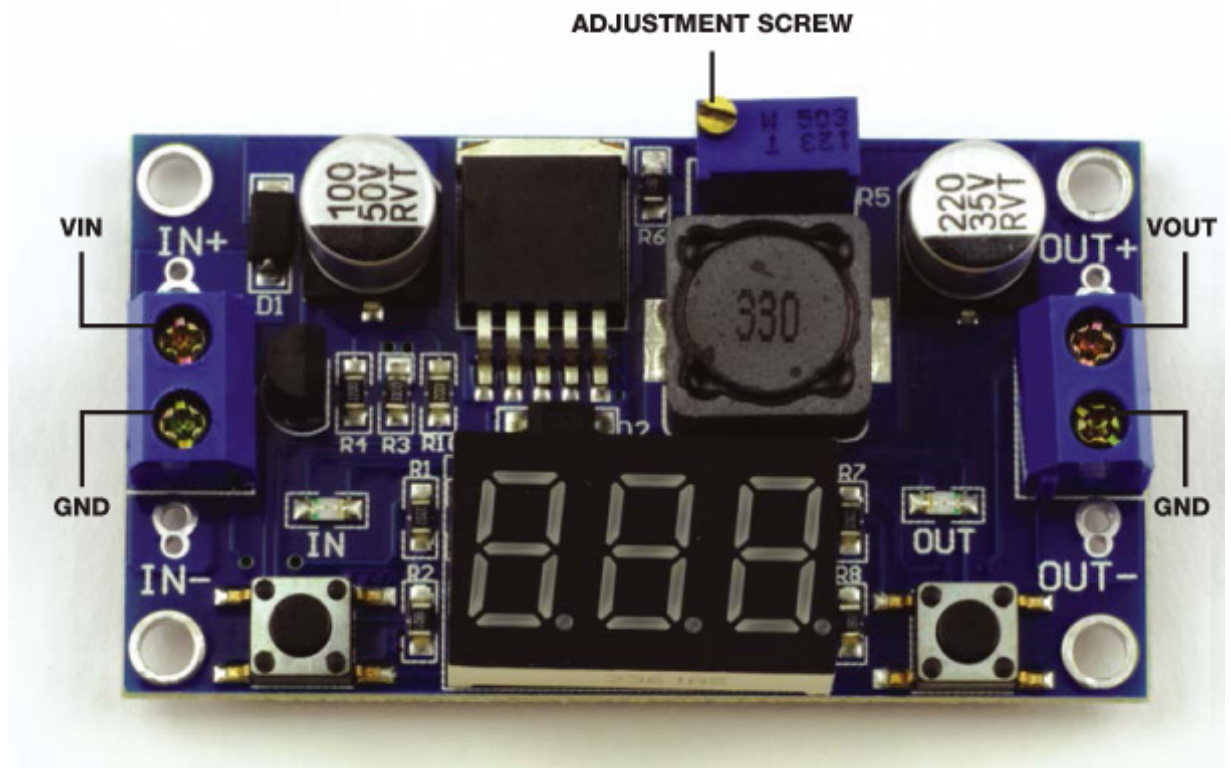
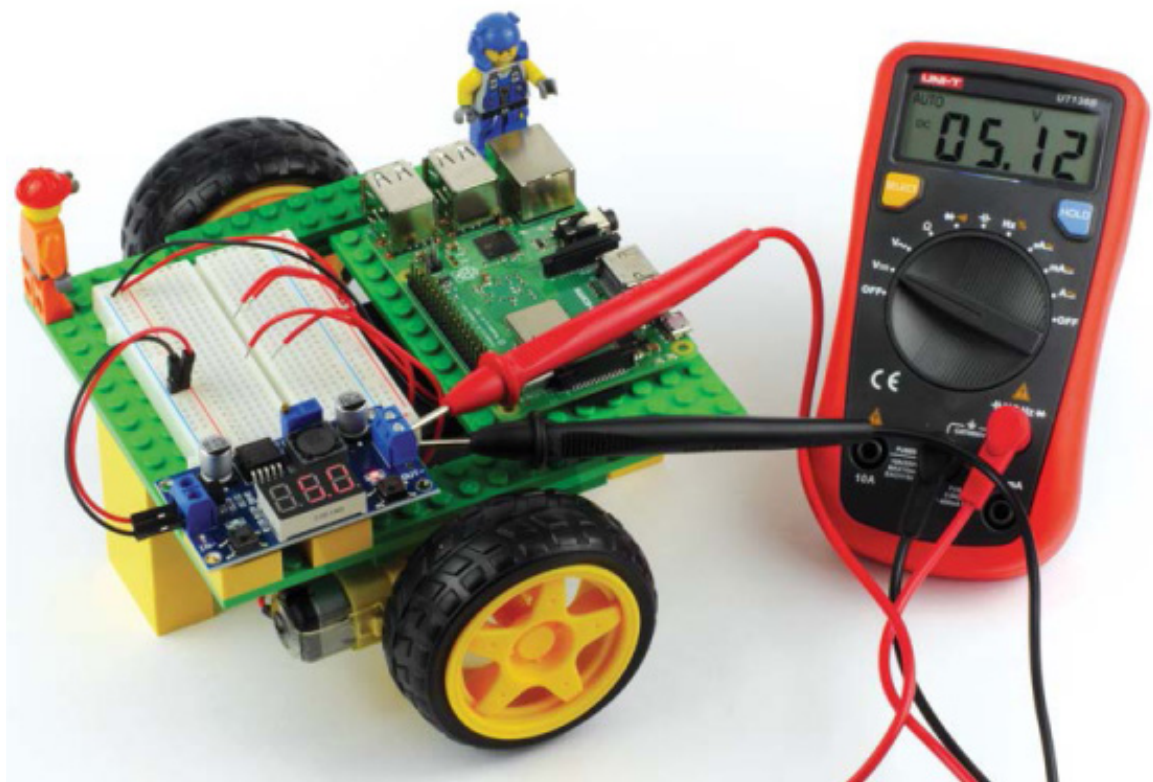

FIGURE 3-19 A close-up of the buck converter
FIGURE 3-20 The multimeter reading 5 V from the output of the buck converter
Start by setting up your buck converter using the following instructions—you won't connect it to the Raspberry Pi just yet. Flip to the circuit diagram in Figure 3-21 to see a final diagram of the buck converter setup. Check out Figure 3-19 for a close-up image of the buck converter too.
- Next, turn on your multimeter and set it to read voltage—on most multimeters you do this by turning the dial in the middle to *V*. Then insert the multimeter’s red positive lead into the VOUT (voltage out) terminal of your buck converter, and insert the multimeter’s black negative lead into the GND terminal on the same side (see Figure 3-19). You should see a reading of the output voltage of your buck converter appear on the multimeter. Don’t worry about the value of the reading just yet!
4. With the multimeter connected so you can see how the voltage changes, use a screwdriver to twist the *adjustment screw* on the top of your buck converter (check back to Figure 3-19). Insert your screwdriver, and as you twist either left or right your voltage reading should change. Work out the correct direction you need to twist the adjustment screw, and then keep twisting the screw until your multimeter reads 5 V (± 0.1 V), as shown in Figure 3-20. This requires a little trial and error!